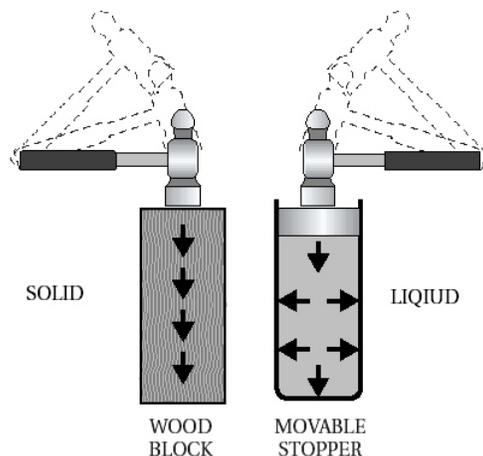

Figure 1-3 Pascal's Law
3. **PASCALS LAW SIMPLY STATED, IS: “PRESSURE IN AN ENCLOSED CONTAINER IS TRANSMITTED EQUALLY AND UNDIMINISHED TO ALL PARTS OF THE CONTAINER AND ACTS AT RIGHT ANGLES TO THE ENCLOSING WALLS.”** This is demonstrated in Figure 1-3. This is an important law and will be discussed in more detail later in this book.